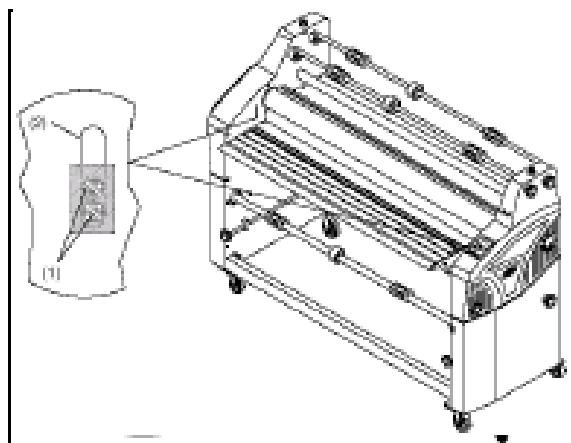

Fig. 14
B. SAFETY SHIELD INTERLOCK LATCH: (Figure 14) Used to lock the safety shield into position and activate an interlock switch. The interlock latch is located on the left side of the safety shield. When pushed to the full left (1), the safety shield is locked. When pushed to the full right (2), the safety shield is unlocked.
C. SAFETY SHIELD: (Figure 14) Prevents entanglement, entrapment and inadvertent contact with the heat rollers. **The laminator will operate only when the Safety Shield is located in the fully locked position.**